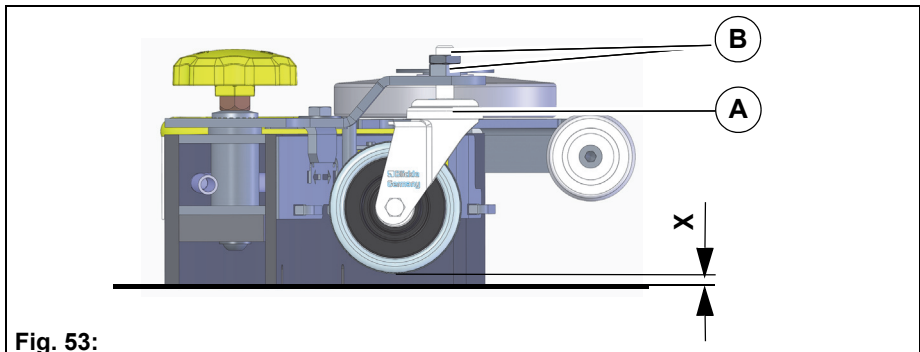

Fig. 53:
The height adjustment (X) of the supporting rollers **Fig. 53-A** has been set to 7 mm in the factory. If striping still occurs despite optimum inclination adjustment, readjust the distance between the supporting rollers and the lower edge of the sealing strip.
3. Loosen nuts **Fig. 53-B** and adjust distance between supporting roller and ground as per the table.